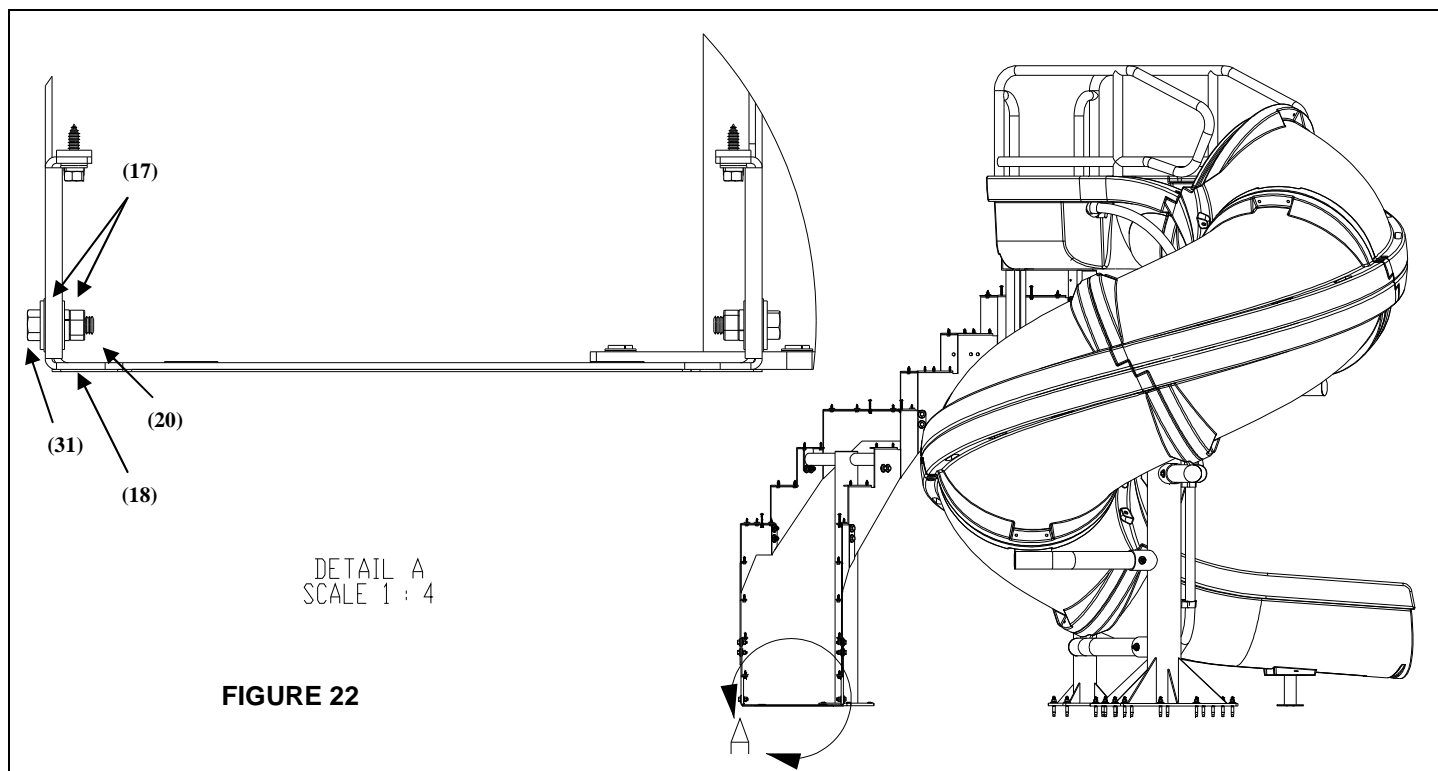

FIGURE 22
5) Place the Step Bracket Anchor (19) in line with the two holes on the Bottom Outside Stair Bracket so that it is inside the stair bracket, as shown in Figure 22. Use the following hardware to attach the bracket to the main stair support: 1/2" x 1.5" Hex Head Bolt (31), 1/2" Flat Washer (17), 1/2" Nylon Washer (22), 1/2" Nylon Washer (22), 1/2" Flat Washer (17), 1/2" Lock Washer (18), and a 1/2" Hex Nut (20), see Detail A. Do not fully tighten yet.